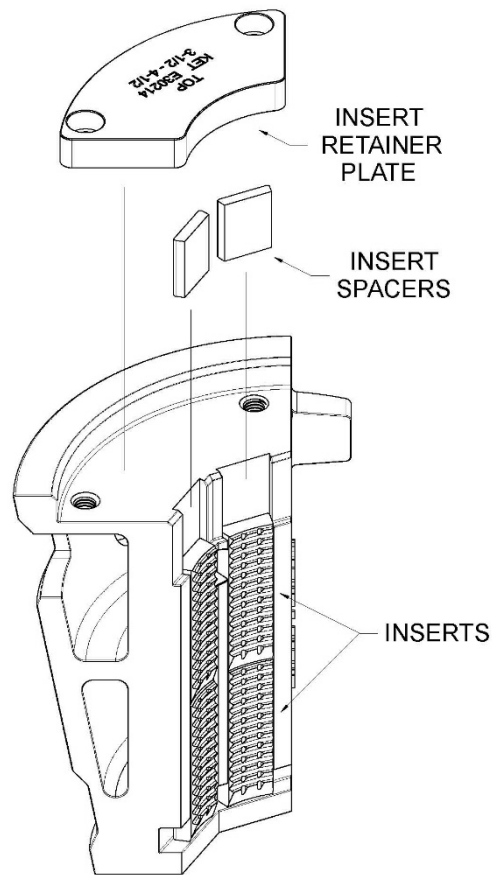

Figure 2
- ▶ Make sure the proper size of inserts are loaded into the slip segments, followed by the insert spacers, and then place an insert retainer plate into each slip. **(See figure 2)**